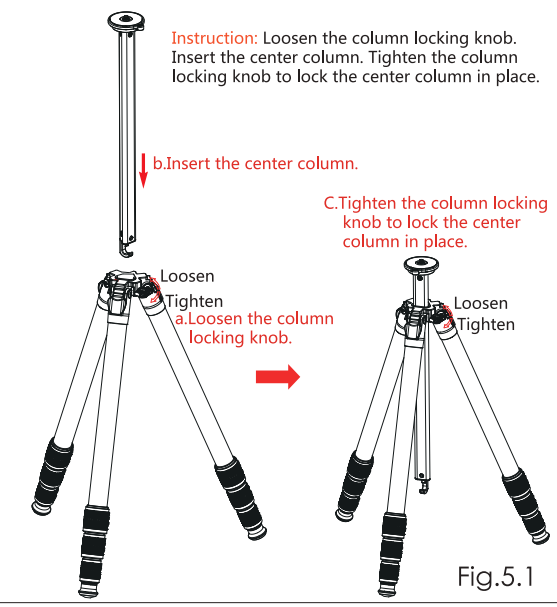
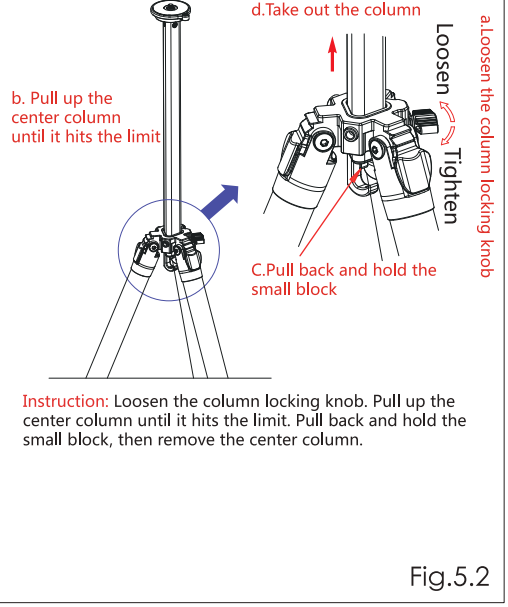

Fig.5.1
Fig.5.2
5. Insert/Remove the column (Fig. 5-1 to Fig. 5-2)